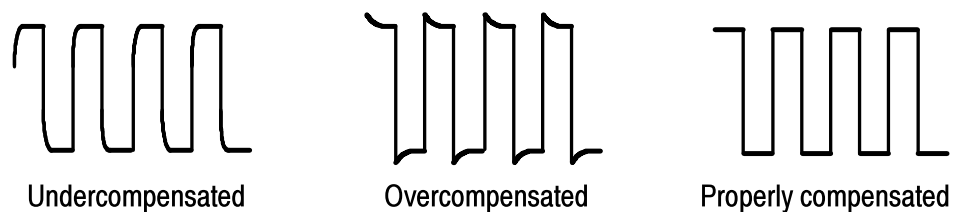

Figure 1: Probe compensation waveforms
3. Adjust the trimmer in the probe until you see a perfectly flat-top square wave on the display. See Figure 1.